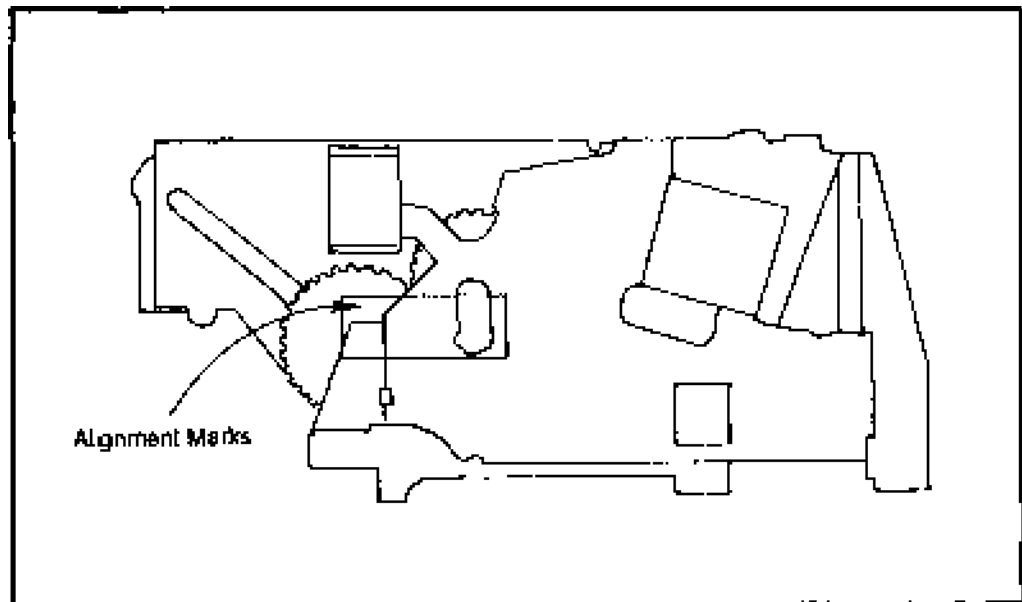

Figure 34: Motor marking alignments
- The markings found on the motor assembly should be aligned in a horizontal line after having installed the motor block assembly. Figure 34 shows where this alignment takes place.